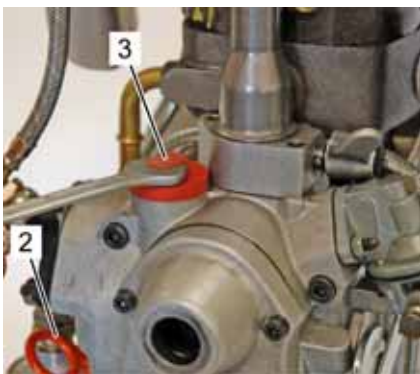

Fig. 47
8. Release oil filler cap (3) e.g. with a flat wrench (wrench size: 13 mm) and screw off by hand.
10. Pull out oil dipstick (Fig. 47/2) and clean the bottom end with a clean and fluff-free cloth.
11. Replace the oil dipstick (Fig. 47/2) and pull it out again.
13. Only tighten the oil filler cap (3) by hand (risk of breakage).
10. Release oil filler cap (9) e.g. with a flat wrench (wrench size: 13 mm) and screw off by hand.
12. Pull out oil dipstick (Fig. 47/2) and clean the bottom end with a clean and fluff-free cloth.
13. Replace the oil dipstick (Fig. 47/2) and pull it out again.
15. Only tighten the oil filler cap (9) **by hand** (risk of breakage).